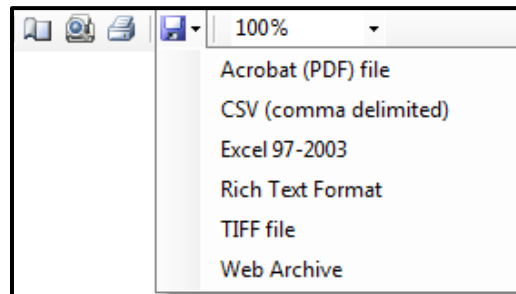

Figure 8.6-4: Print and Export Options
4. There are several options for printing, viewing, and exporting the DataLog. Click the Save icon to export the DataLog as a PDF document, CSV comma delimited format, Excel spreadsheet, Rich Text document, TIFF image stack, or MHTML web archive (Figure 8.6-4).